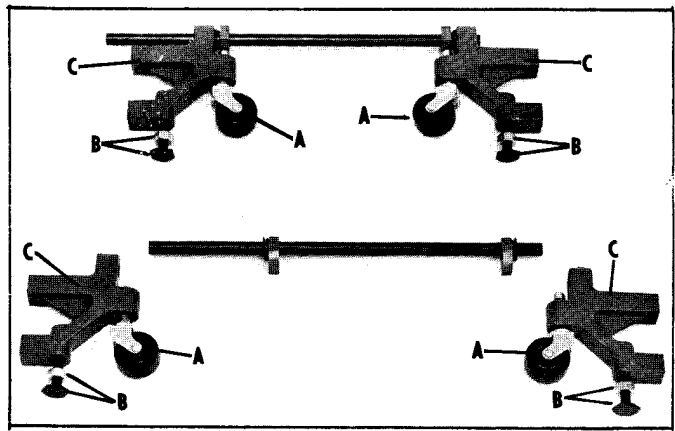

Fig. 4
5. Assemble the four casters (A) and the four leveling screws and locknuts (B) to the caster brackets, as shown in Fig. 4.
6. Assemble the four caster bracket (C) to the two shafts, as shown in Fig. 4.